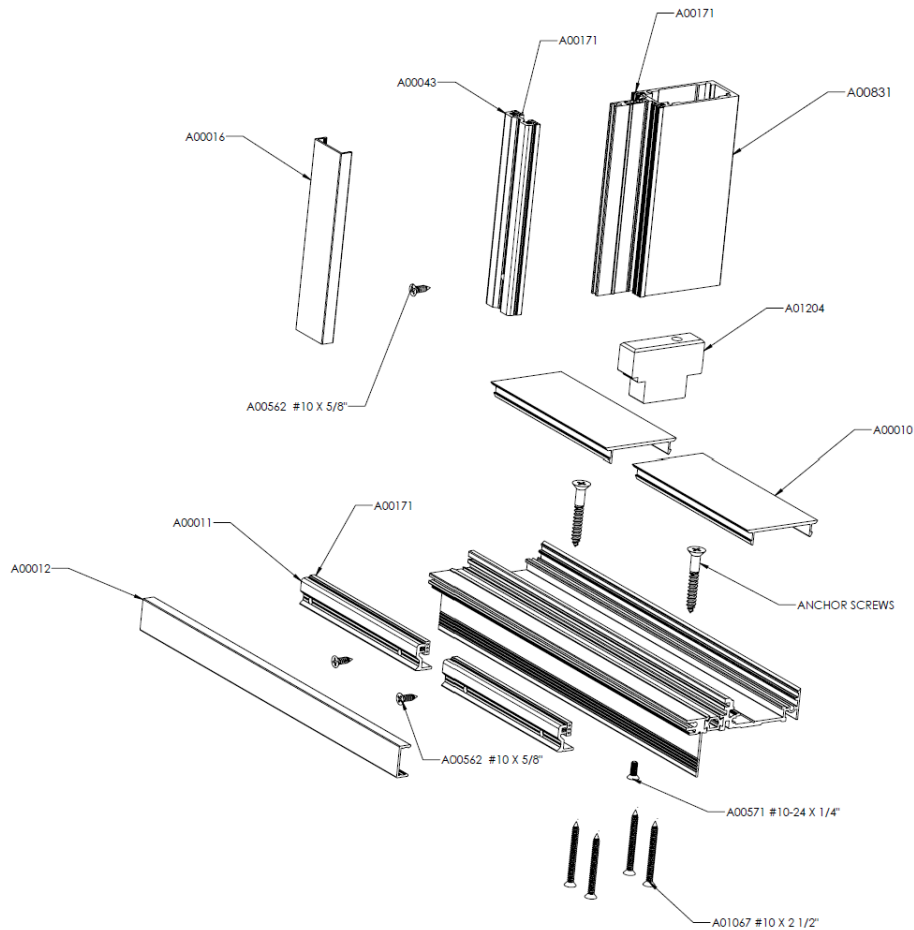

Figure 23
a. See Figure 23 for a magnified view of a vertical T-bar and perimeter frame intersection.